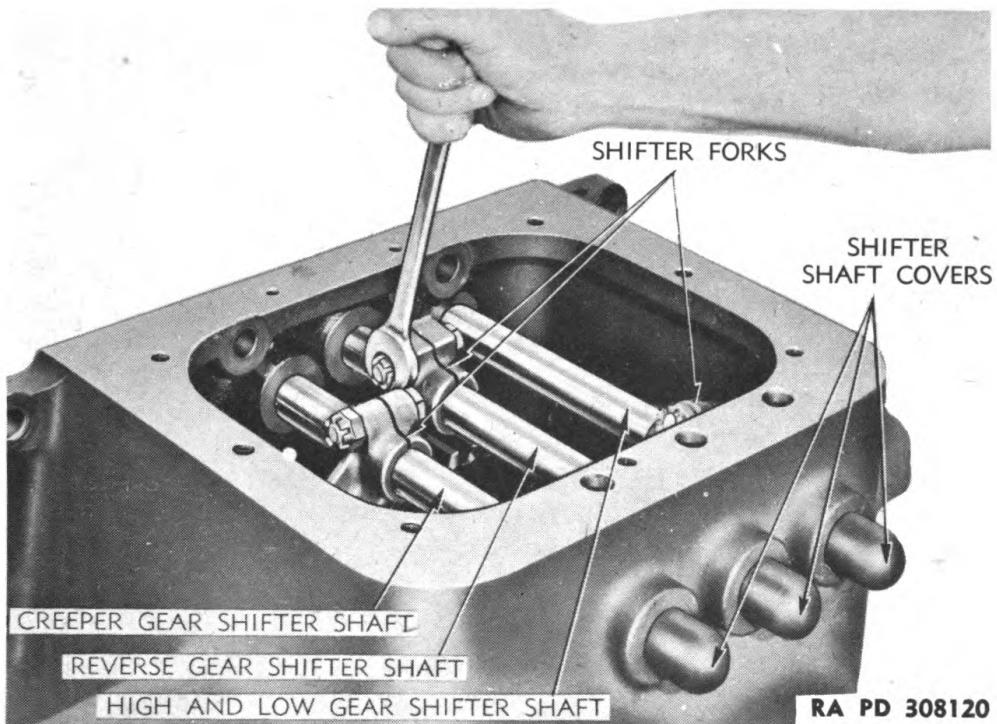

Figure 20 — Loosening Shifter Fork Clamp Bolts
a. **Remove Shifter Shafts and Forks** (fig. 20). Pull cotter pins and loosen nuts on shifter fork clamp bolts. Drive shifter shafts towards rear of case. This will push shifter covers out of case. Then slide shafts out of forks and case and remove forks. Remove the shifter shaft interlocking plungers and springs in lateral passages in front end of case (fig. 63).